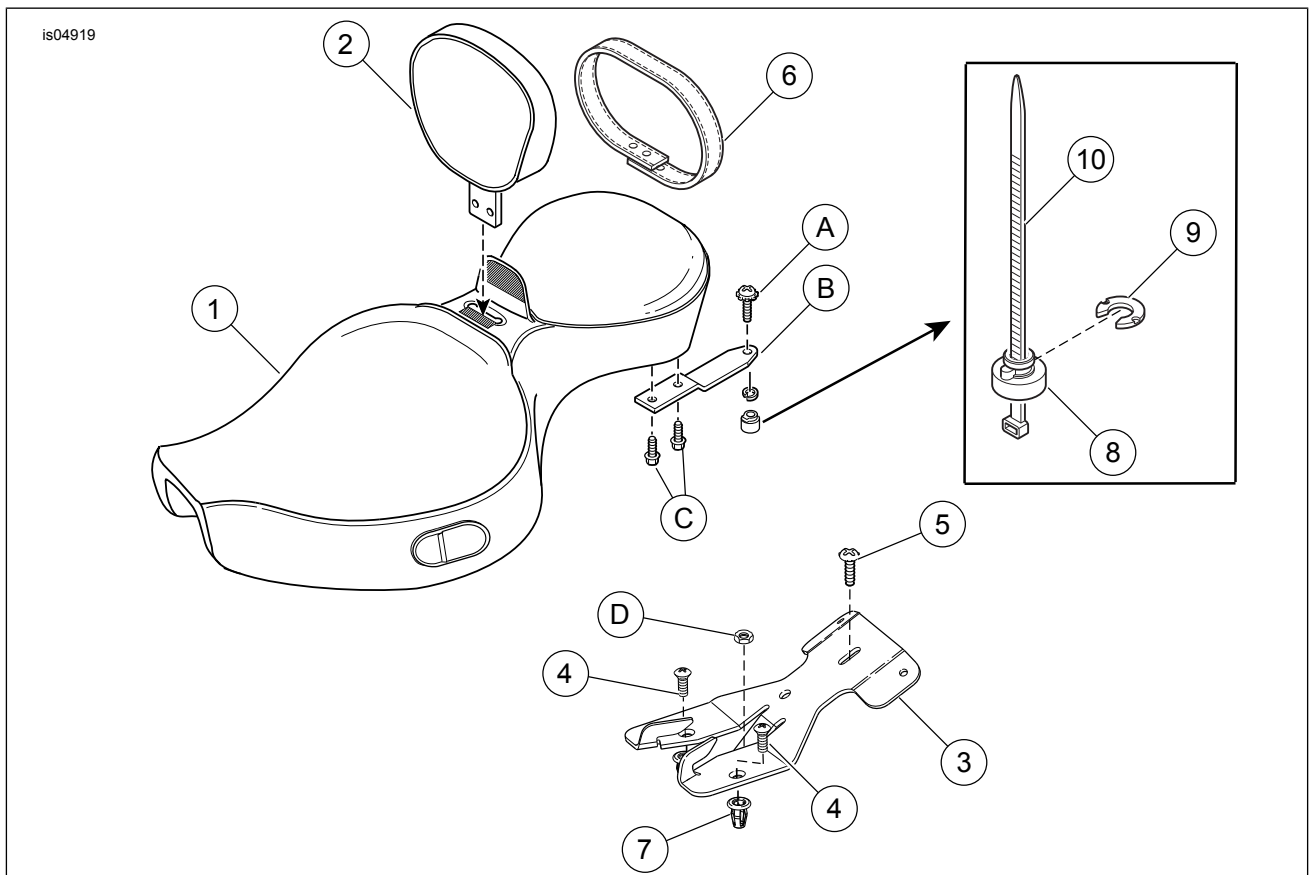

Figure 9. Service Parts: Seat with Adjustable Rider Backrest (generic style shown)
See Figure 9 and Table 1.
2. See Figure 9. Remove the seat bracket from the stock seat.
5. See Figure 9. Slide the retention nut (9) onto the cable strap (11) so the wide end of the nut rests on the eye of the strap. Thread the cable strap up under the fender and through the fender hole. Pull up on the cable strap to hold the nut snug against the underside of the fender. Seat the rib of the retention nut in the notch in the fender hole and slide the retention washer (10) into place from the rear. This will lock the retention nut in place.
7. See Figure 9. Install the new grab strap (8) in the original location with the hardware saved in Step 1. Tighten the nut to 10.85 N·m (96 in-lbs).